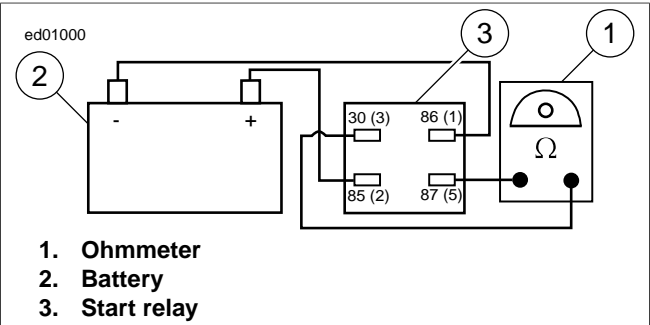
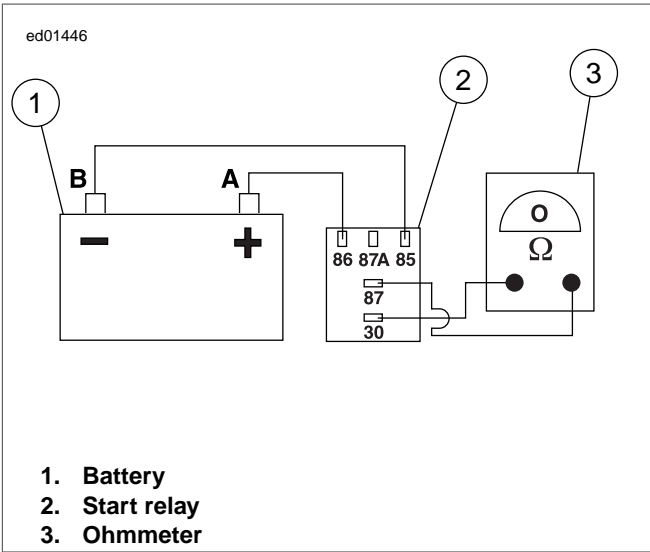

Figure 1-28. Four Terminal Relay Test
Figure 1-29. Five Terminal Relay Test
- See Figure 1-28 and Figure 1-29 to energize the relay. Connect relay terminal 85 to the negative battery terminal and relay terminal 86 to the positive battery terminal.